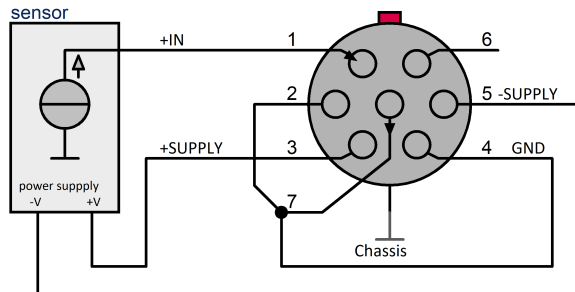

Fig. 3
- Sensors with three-wire connection (bipolar supply) can supply signals of both polarity, see Fig. 3.